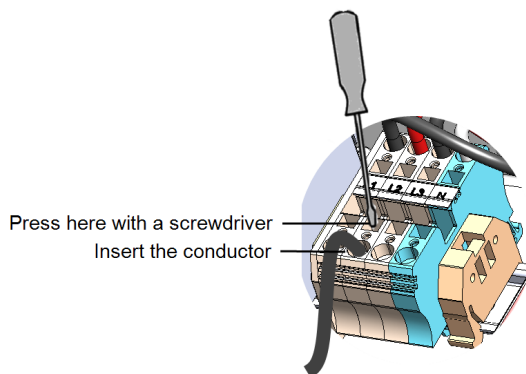

Figure 26: AC Spring-clamp terminal – three phase inverter
- a. Use a standard flat-blade screwdriver to connect the wires to the spring-clamp terminals (See *Figure 26*).